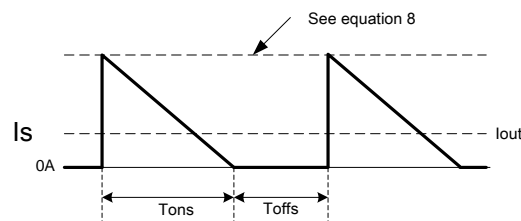

Figure 4. Secondary Current Waveform
The AP3968/69/70 is designed to work in constant current (CC) mode. Figure 4 shows the secondary current waveforms.